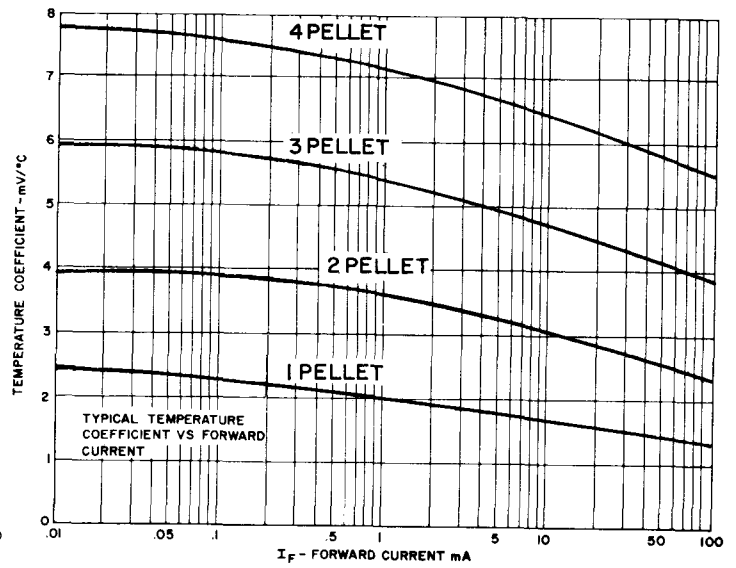

Figure 2
- (1) For typical temperature coefficients see Fig. 2.